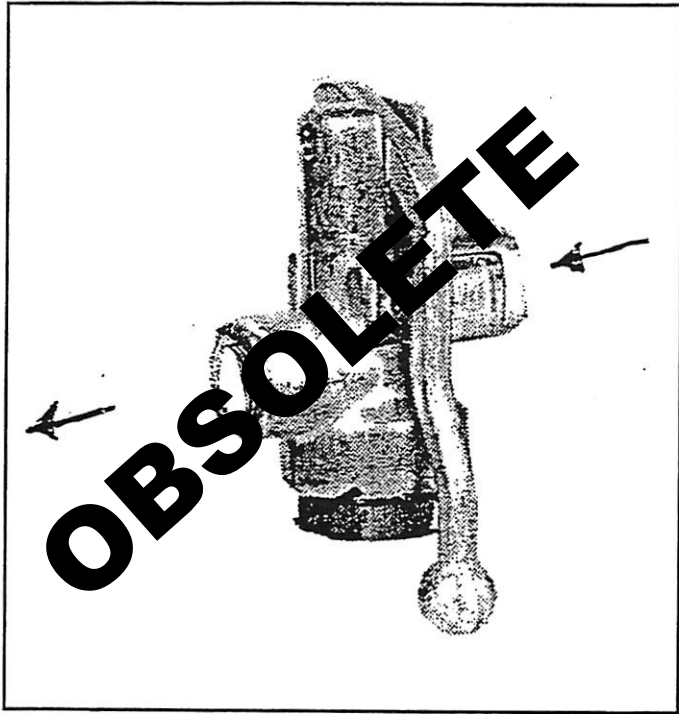
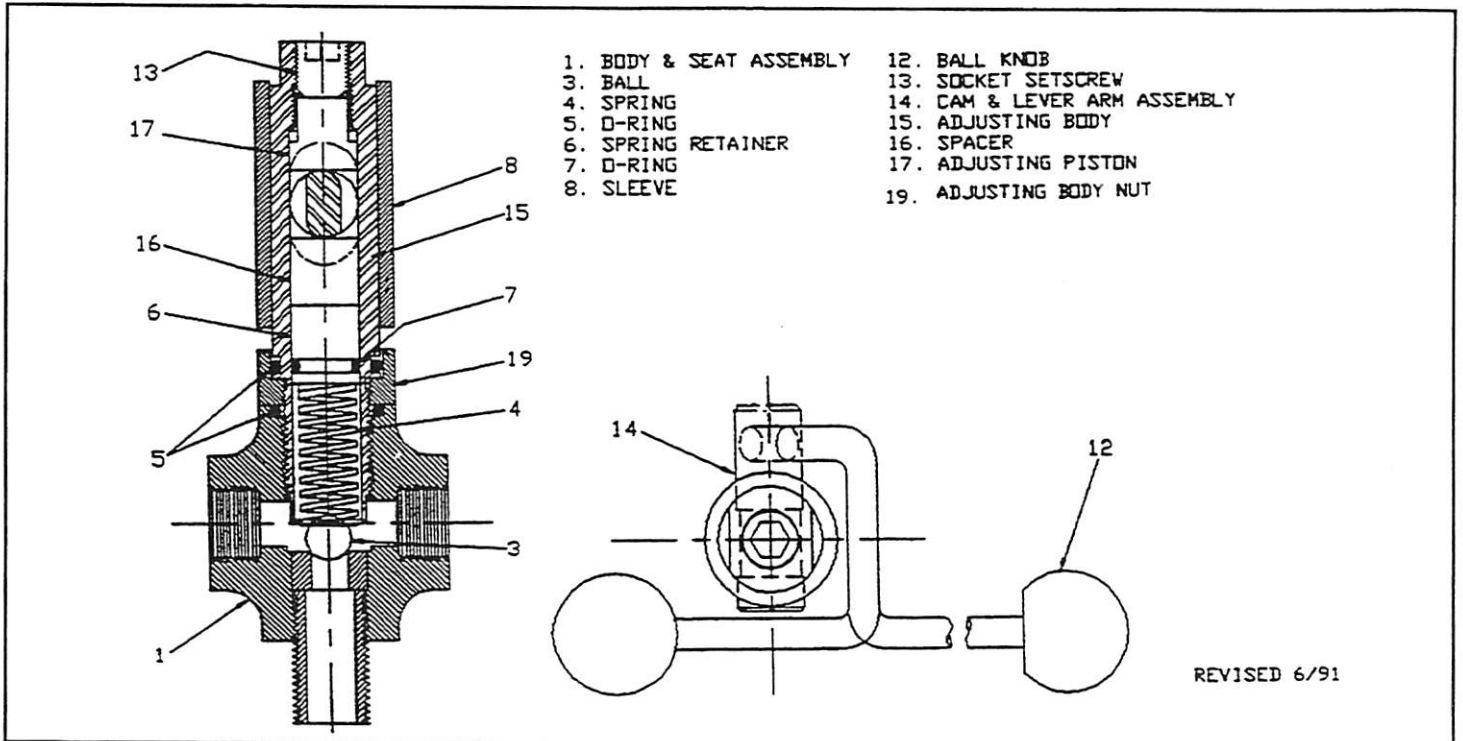

Fig. 3-1. Flip Valve Assembly
Figure 3-3. Pressure Regulating Valve
a. 1/4 Inch and 1/2 Inch Barstock Valves (Bleedoff and Cylinder Filling Valves, see figure 3-1). If leakage cannot be controlled by completely closing the valve, replace the complete valve.
b. 1/2 Inch Angle Valve. If leakage cannot be controlled by completely closing the valve, disassemble by following the key index numbers and replace the neoprene disc (8). If leakage persists, replace the complete valve.
c. Pressure Regulating Valve (see figure 3-3). If regulation of charging pressure cannot be maintained, disassemble the valve in the order of the index numbers, and check the ball (3), spring (4) and seat (2) for wear or damage. Replace any parts found to be defective.